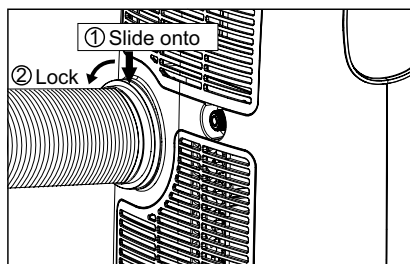

Fig. 4
3. Install the connector B into the unit (Fig.4).